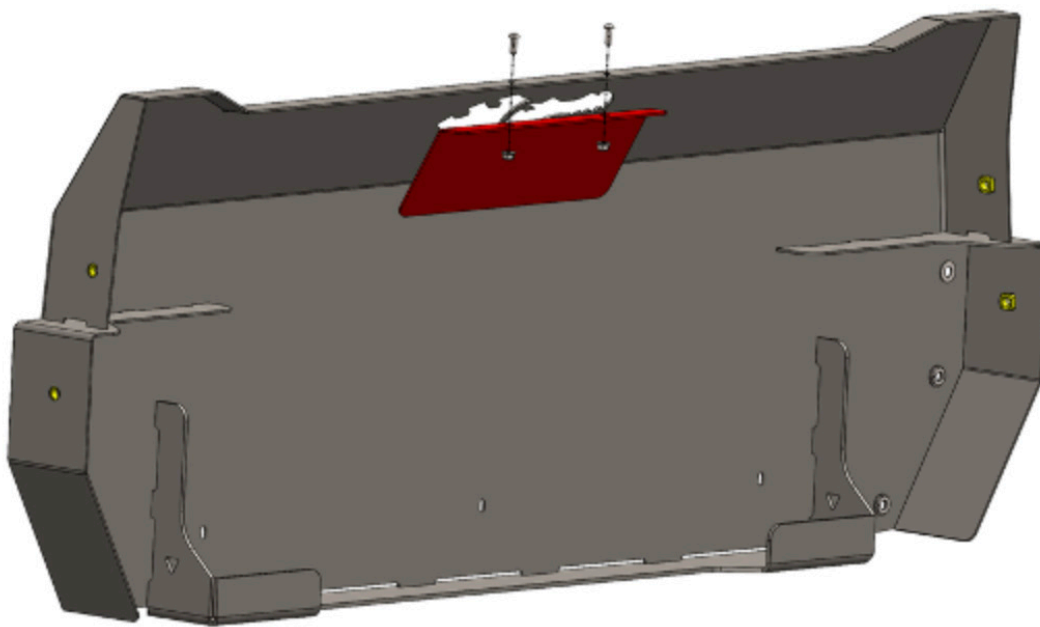

Figure 6
7. Install the logo plate (22841) into the bed riser (22786) using two (2) of the provided M6 bolts and flange nuts. Figure 6.